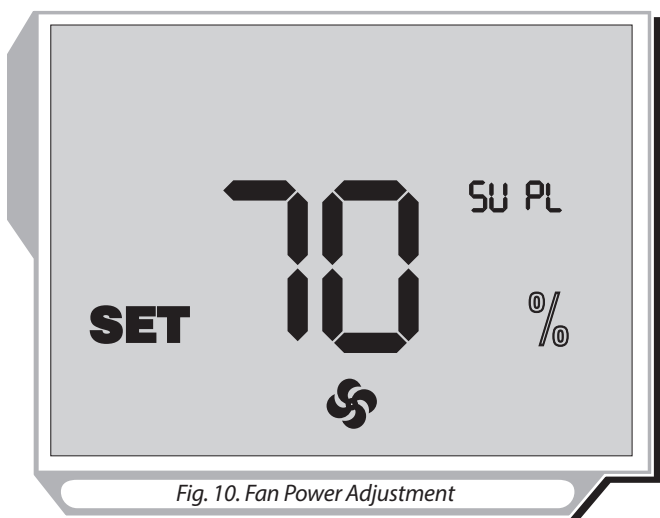

Fig. 10. Fan Power Adjustment
- To change the supply fan power press and hold the button, then press the button to increase the speed or press the button to decrease it. Each press of the and buttons increases or reduces the supply fan power in 1 % increments. While the button is pressed the display screen will indicate the current supply fan power (Fig. 10).